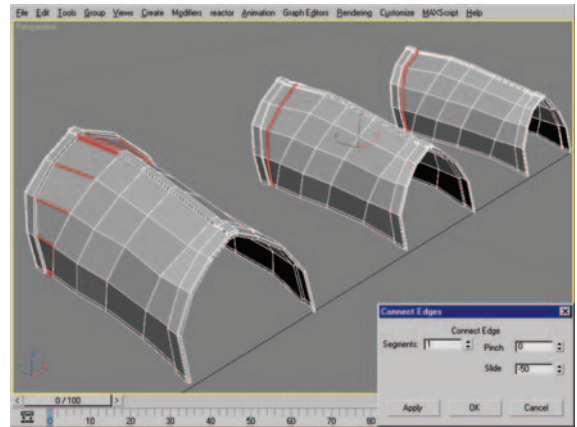

Figure 10.14 Edge-ring selection (left), mesh after using Connect (center), and edge loop after adjusting vertex positions with Edge Constraints active.
16. Select the edge ring seen in Figure 10.14 (left) and use the Connect settings with a Slide value of -50 to create an additional edge loop (Figure 10.14, center). With Edge Constraints active, adjust the vertex positions as seen in Figure 10.14 (right).